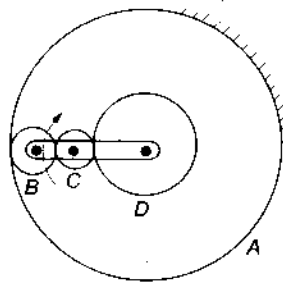

Fig.12.24 Epicyclic gear train
- 3 An epicyclic gear train, as shown in Fig.12.24, is composed of a fixed annular wheel *A* having 150 teeth. The wheel *A* is meshing with wheel *B* which drives wheel *D* through an idle wheel *C*, *D* being concentric with *A*. The wheels *B* and *C* are carried on an arm which revolves clockwise at 100 rpm about the axis of *A* and *D*. If the wheels *B* and *D* have 25 teeth and 40 teeth respectively, find the number of teeth on *C* and the speed and sense of rotation of *C*.